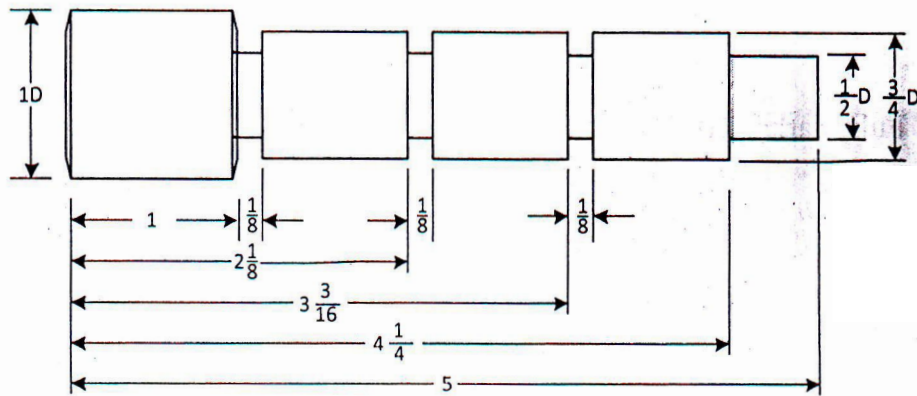

Figure 6(c)
6. (c) Design a template gage for the work piece shown in figure 6(c). Dimension fully. 12